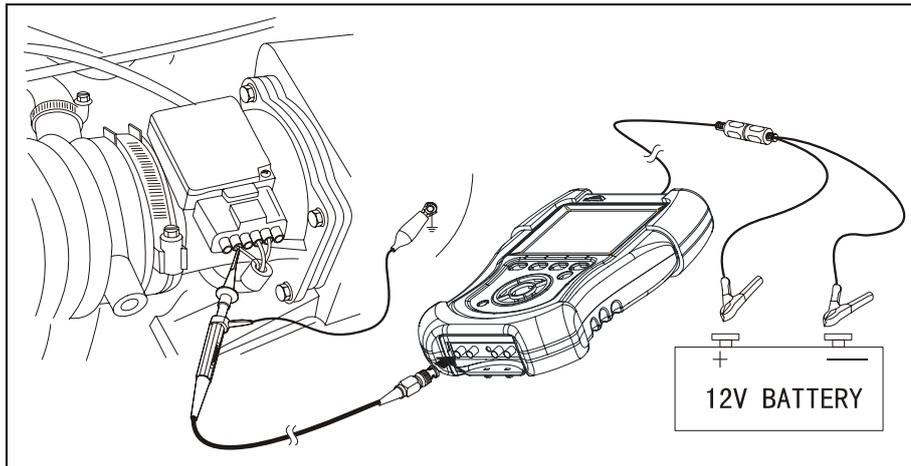

Fig. 4-1
When connecting KT600 to extension line for power supply, choose battery or cigar igniter as power supply according to the battery position of vehicle mode tested. All connecting diagrams in this users manual take power supply by battery as example. If choosing cigar igniter connector, confirm that cigar igniter has 12V battery voltage first. Connect test probe to Channel 1 (CH1 port), and then connect the small alligator clip on test probe to the negative of battery or grounding, pierce test probe into the signal line of air flow sensor. Connecting diagram is shown as Fig.4-1.
1. Connect equipment according to Fig.4-1, switch on power supply switch of KT600;